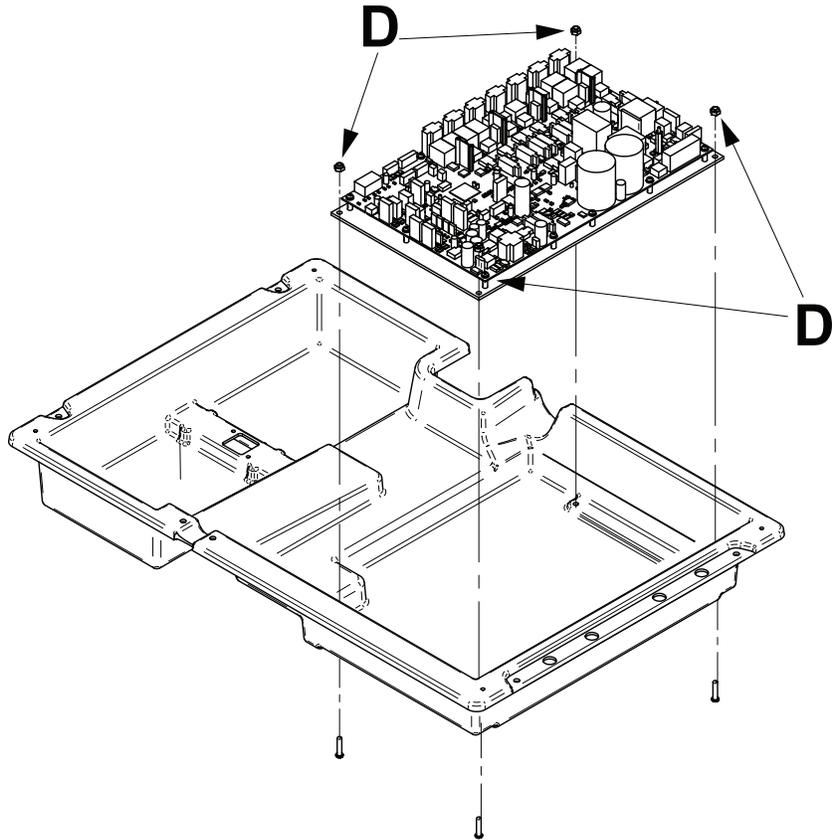

Figure 55 – CPU/Power board
6. Unplug the power cord from the wall outlet and turn battery switch **OFF** (0). The bed should now have no power.
9. Using a 3/8" nut driver and a #2 Phillips screwdriver, unscrew the four screws (D) that secure the metal CPU/Power board mounting plate to the electrical tray (Figure 55). Save the screws.